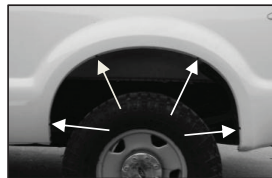

Figure 5
3. Remove the white backing from the black tabs and install half over the four factory hole locations as shown in **Figure 5** and **Figure 6**. Fold the remaining part of the black tab over the fender lip as shown in **Figure 7**.